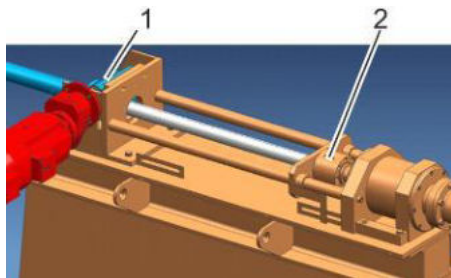

Fig. 85: Spindle gear drive
3. Connect the grease gun to the grease nipples (Fig. 85/1 + 2).